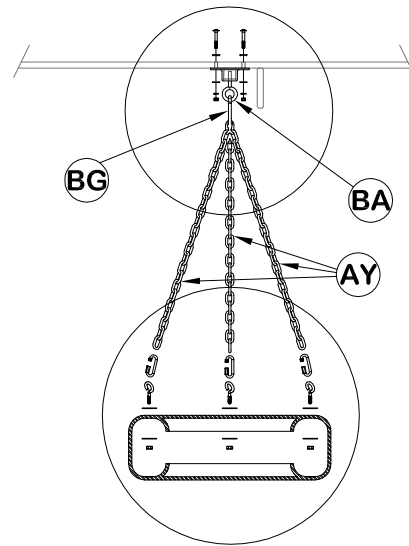

Fig. 20
- (1) 'BG' - Snap Link
Step 1: Gather items AY(3), AZ(3), BA(1), BB(3), BC(1), BG(1) and hardware bag.
Step 2: Place (2) 2" carriage bolts with anti-turn washer inside holes through inside of fort and fasten tire swivel BA (Fig. 20).
Step 3: Assemble Tire Swing as shown in Fig. 19 and install it as shown in Fig. 20.